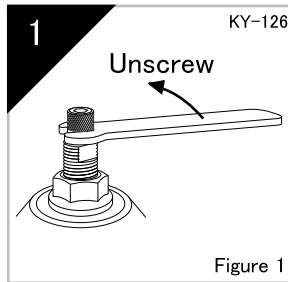

Figure 1
- 1) Remove the silver click assembly by turning counter-clockwise with the black spanner wrench included in the kit. (Figure 1)